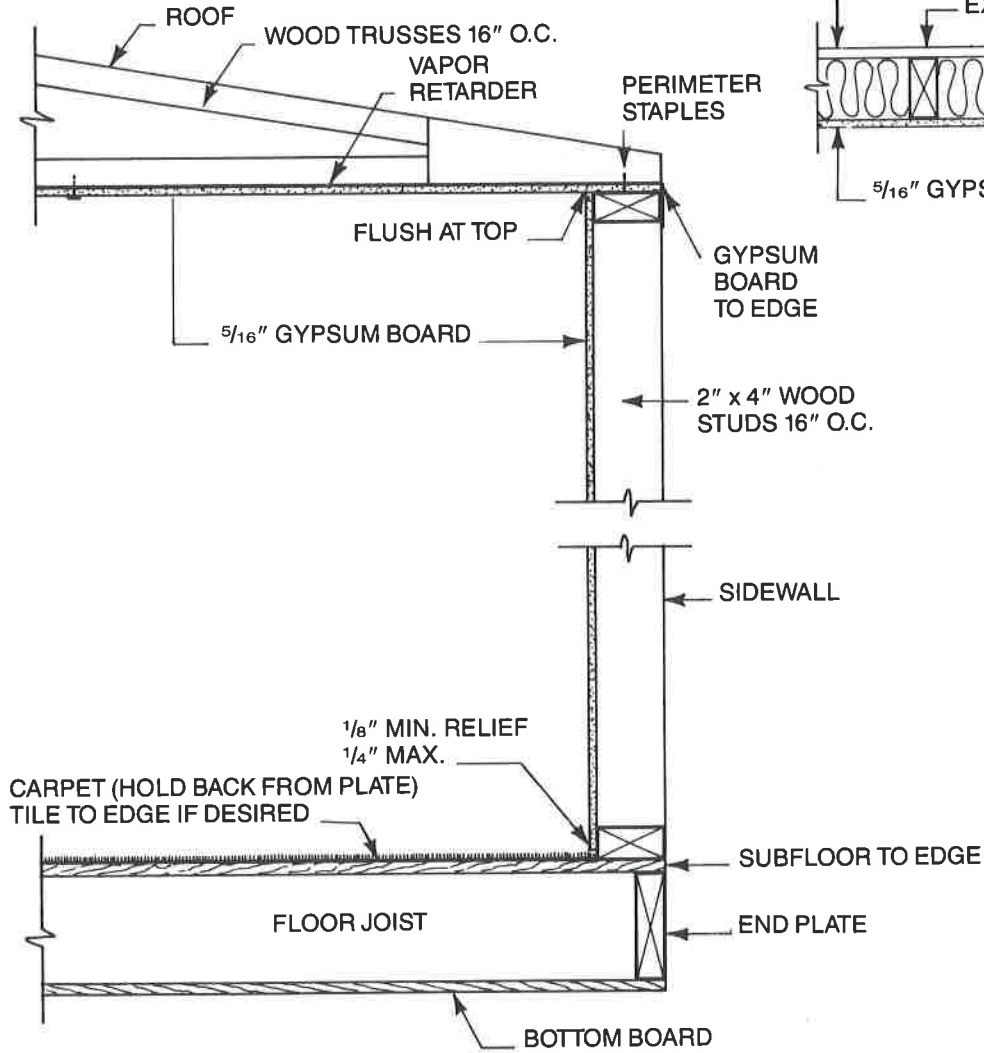

Fig. 6A
6.3 Typical framing, vapor retarder, intersecting walls and relief joint details are found in Figures 6A through 6F. Door and wall framing details are shown in Figures 6G and 6H.